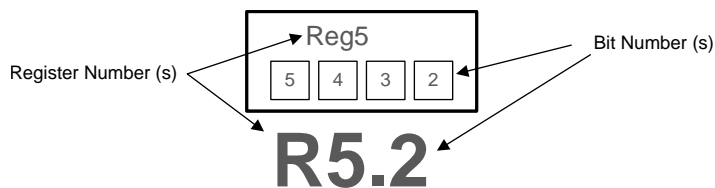

Figure 42. LMK03318 Register Reference Format
Figure 42 shows the method that this document employs to refer to an individual register bit or a grouping of register bits. If a drawing or text references an individual bit the format is to specify the register number first and the bit number second. The LMK03318 contains 124 registers that are 8 bits wide. The register addresses and the bit positions both begin with the number zero (0). A period separates the register address and bit address. The first bit in the register file is address ‘R0.0’ meaning that it is located in Register 0 and is bit position 0. The last bit in the register file is address R31.7 referring to the 8th bit of register address 31 (the 32nd register in the device). Figure 42 lists specific bit positions as a number contained within a box. A box with the register address encloses the group of boxes that represent the bits relevant to the specific device circuitry in context.